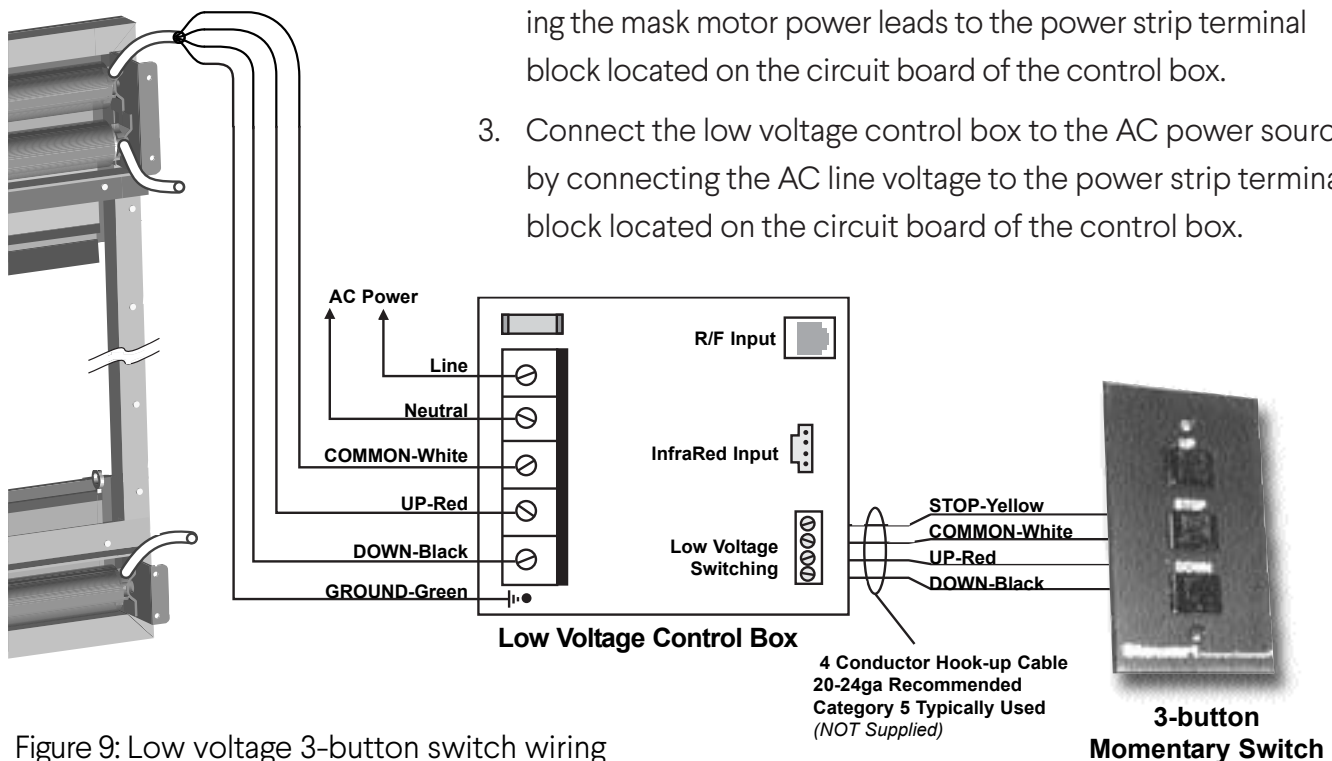

Figure 9: Low voltage 3-button switch wiring
- Figure 9 illustrates the connections.